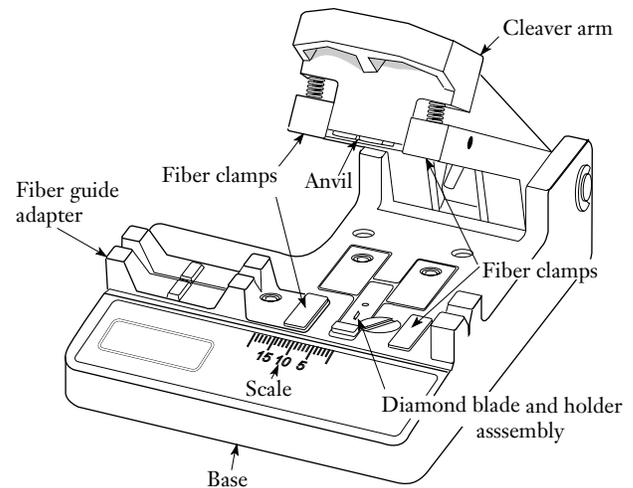

Figure 1
1.1 This procedure describes how to use and maintain the Corning Cable Systems FBC-006 fiber cleaver (Figure 1).
1.5 Figure 1 identifies the parts of the FBC-006 cleaver. A metric length scale incorporated in the base of the cleaver allows accurate cutting to any desired length between 5 mm and 15 mm.